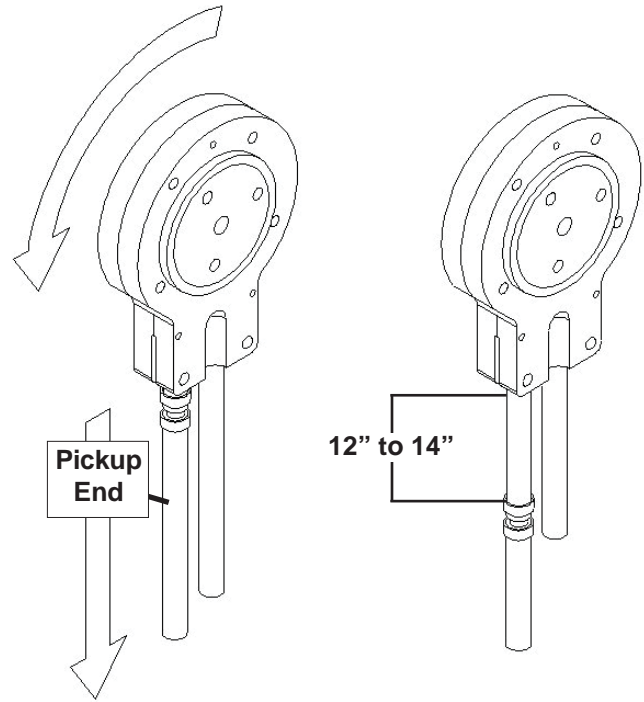

Figure 4-3 Pump Hose Reposition
- C. Grasp the pickup hose end of the mix pump hose with one hand and turn the pump on. Pull down on the pickup hose end until 12 to 14 inches of tubing has fed through the pump then turn the pump off (Fig. 4-3).